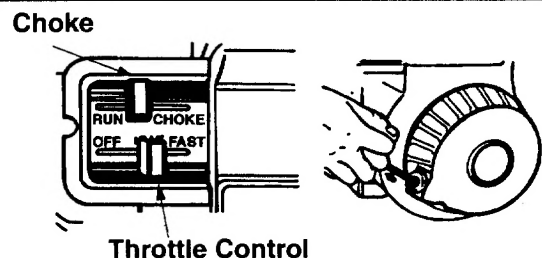

Figure 6.
The throttle control lever is located on the engine. It controls the engine speed and stops the engine. (See Figure 6)
3. Place the throttle control lever in FAST position. (See Figure 6)
5. Grasp starter handle (See Figure 6) and pull rope out slowly until engine reaches start of compression cycle (rope will pull slightly harder at this point). Let the rope rewind slowly.